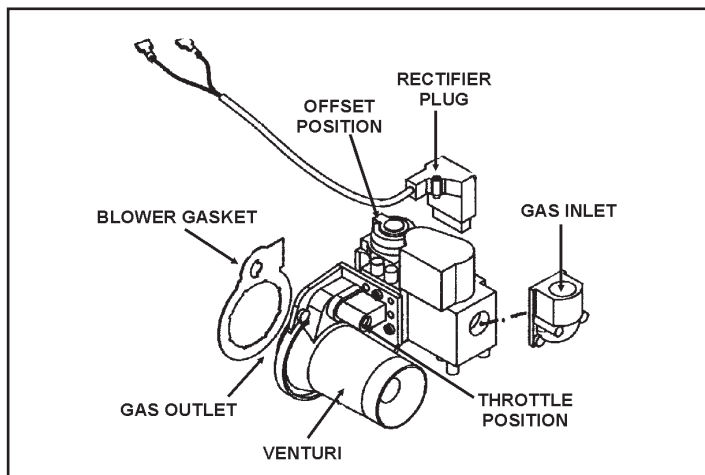

FIGURE 14a. 199/250 Models Only
1. When connecting gas pipe to unit, apply wrench to flange only. Note: Do not use wrench on gas valve or gas bracket. See Figure 14a, b, c.